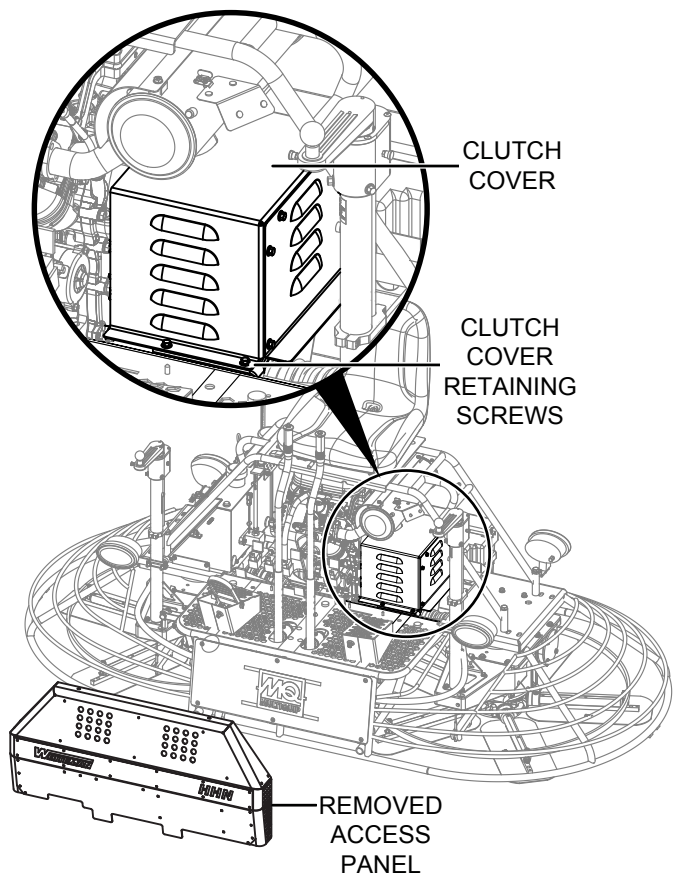

Figure 4. Clutch Cover Retaining Screws
2. Next, lift control access upwards and pull panel slightly forward so that clutch cover retaining screws (Figure 4) can be accessed.